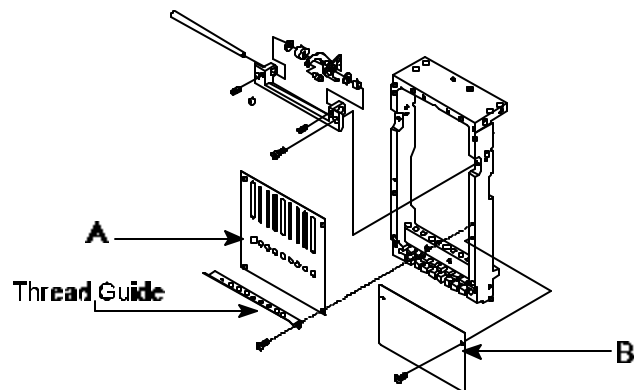

Figure 2
5. Using a Phillips Screwdriver, **remove** 6 Phillip Screws from A, B Sewing Head Plates and Thread Guide . See *Figure 2*.